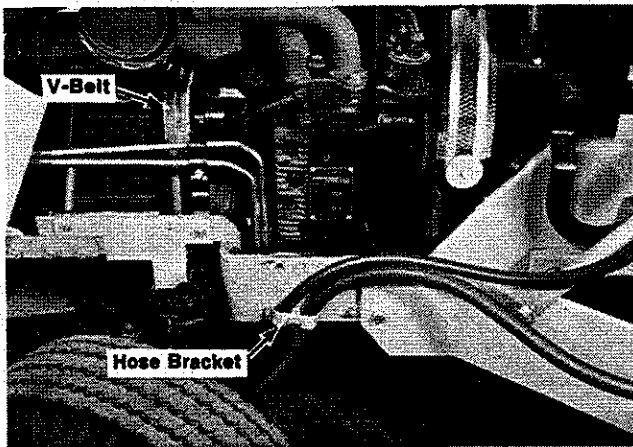

FIGURE 4
| 30. | 1 | Hose Bracket | 24056 - See Figure 4 |
| 31. | 1 | Hose Bracket Bushing | 24057 - See Figure 4 |
Once in place insert bolts and install lock washers and nuts previously removed from the pump assembly and tighten securely. Re-install the ground wires and springs holding the battery cover. Loosen the 3/8" x 2" belt tightener bolt so that the pump mounting plate will have freedom of movement up and down and then from the top install the V-belt, P/N 23092 over the tractor P.T.O. pulley and then install V-belt on the pump pulley. Figure 4.
Install Hose Bracket and Bushing P/N 24056 a. P/N 24057 as shown in Figure 4 with one (1) 1/2" x 2" bolt and LW.